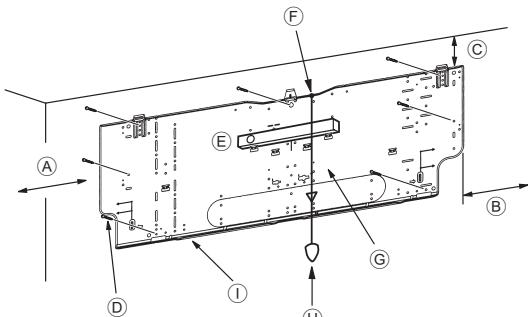
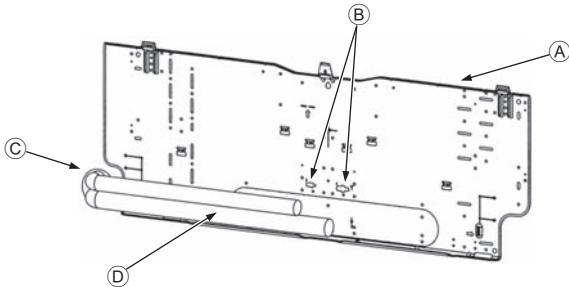

Fig. 3-4
Fig. 3-5
■ PKFY-P-VKM-E (Fig. 3-4)
- Ⓓ Fixing screws (4 x 25) ②
- Ⓘ Mount board ①
3.3. When embedding pipes into the wall (Fig. 3-5)
- (Ⓐ Mount board ①